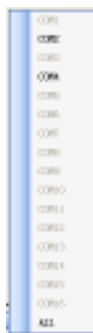
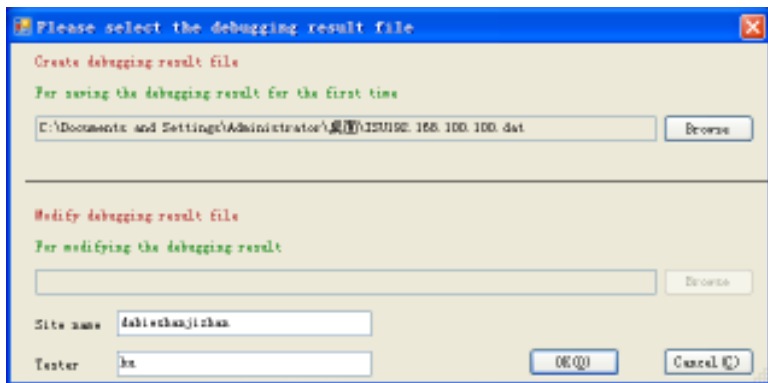

Figure 4-17 Selecting data type
Figure 4-18 Saving debugging result
10. After debugging, Click the **Save debugging result** button at the bottom of the primary window, and the menu shown in Figure 4-17 pops up.
11. Select the desired data type in the menu shown in Figure 4-17, and the dialog box shown in Figure 4-18 appears.